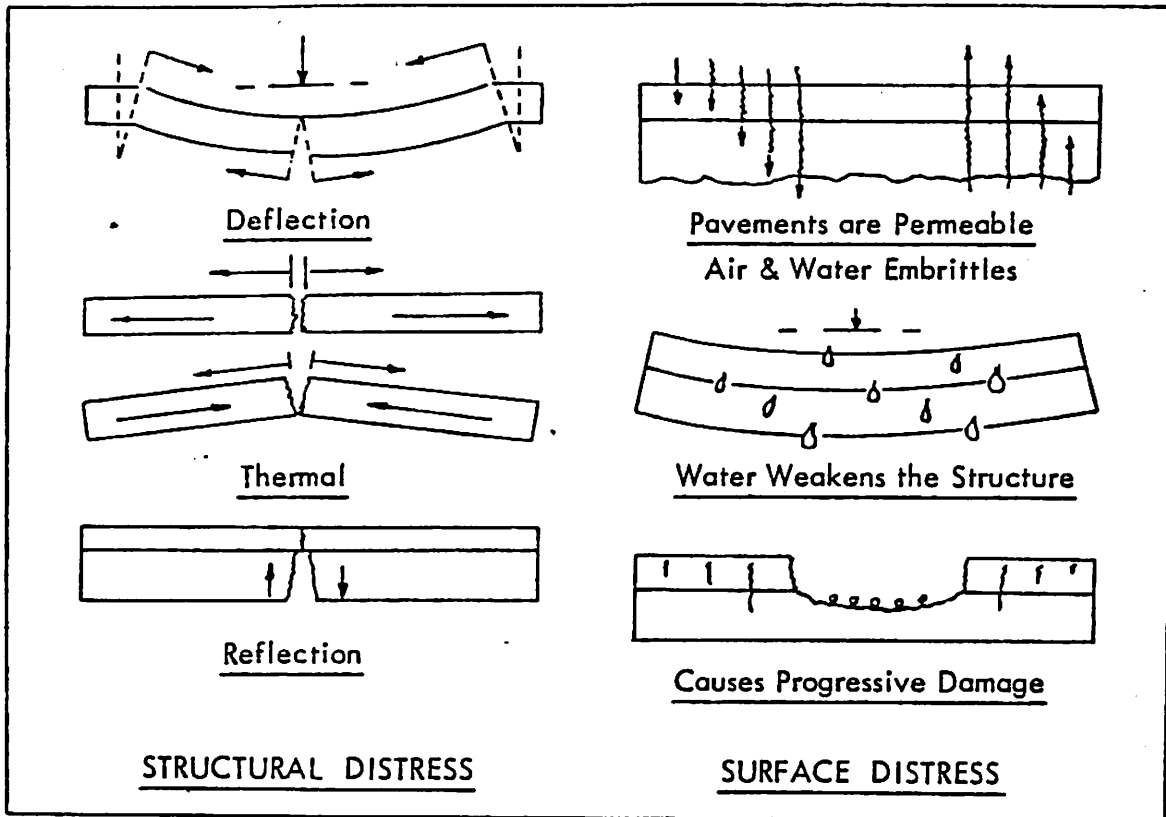

Figure 18 . Examples of Pavement Distress.
- FIGURE 18. CARTOON FROM THE "JOURNAL HERALD", DAYTON,